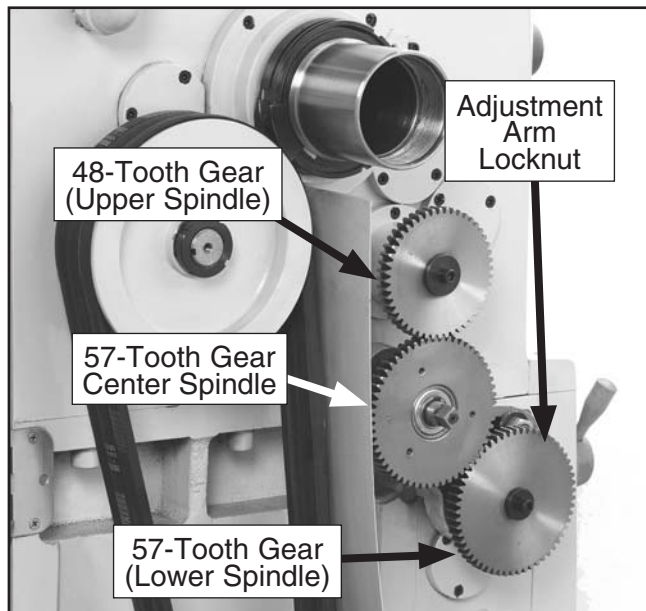

Figure 57. Change gear setup for inch and metric thread cutting.
This lathe comes with one 48-Tooth and two 57-Tooth change gears installed for cutting inch or metric threads. However for cutting dimetrial or modular threads the lower 57-Tooth gear must be replaced with the included 42-Tooth gear, and the 66-Tooth gear must be installed onto the shoulder of the center 57-Tooth gear (**Figure 57**). Gear positions must also be changed.
2. Open the side cover and familiarize yourself with the orientation of the change gears (**Figure 57**).
9. Remove the 57-tooth gear (**Figure 57**).
11. Using the 6mm hex wrench, remove the upper spindle cap screw, spacer washer, the 48-tooth gear, and the spacer (**Figure 57**).